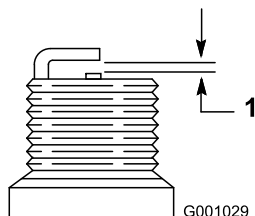

Figure 23
4. Set the gap between the electrodes on a new spark plug at 0.76 mm (0.030 inch) as shown in Figure 23.